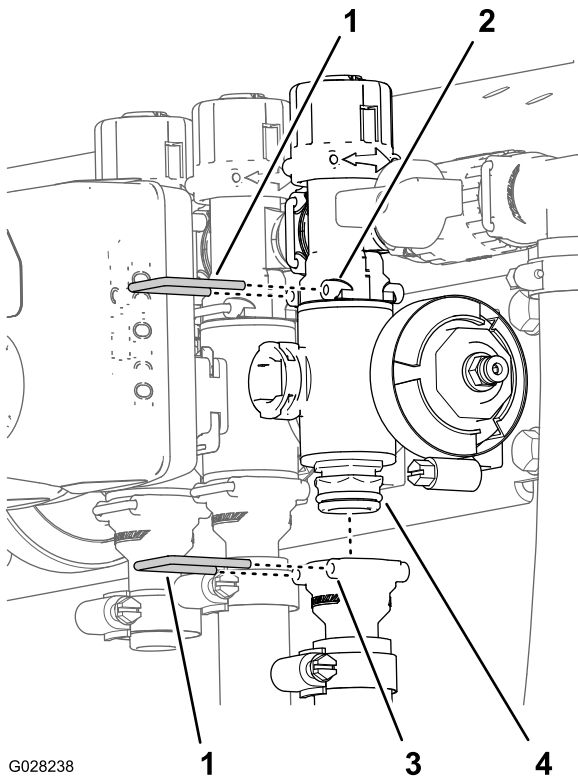

Figure 115
- Remove the retainer that secures the section valve manifold to the bypass fitting (Figure 115).